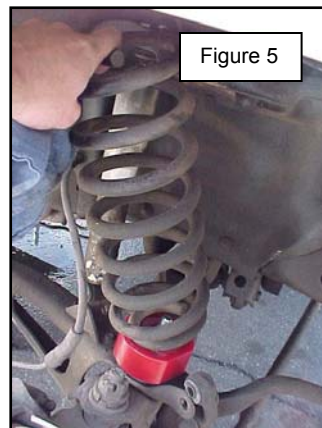

Figure 5
8. Install the coil spring onto the coil spring spacer and then into the frame. You may have to use a coil spring compressor. See figure 5.